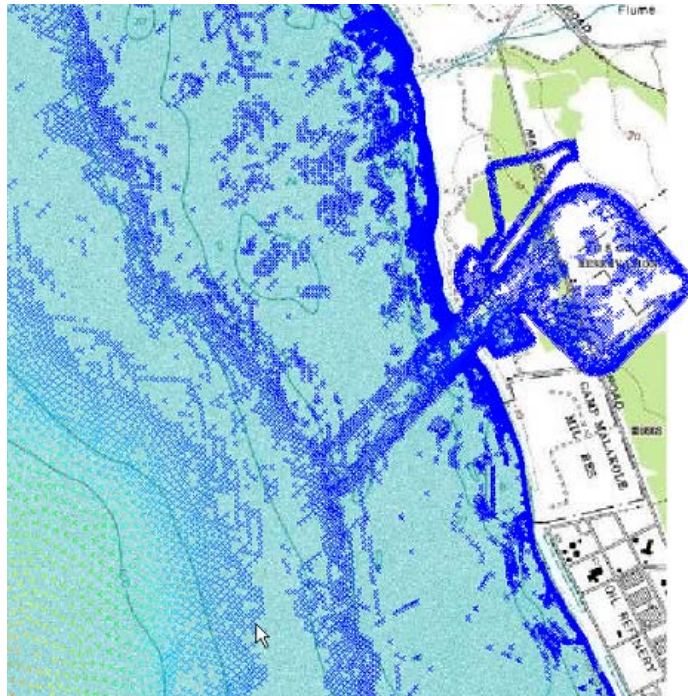

Figure 20-5. Zoomed view of harbor area.
1. Zoom into the harbor area as shown in Figure 20-5.